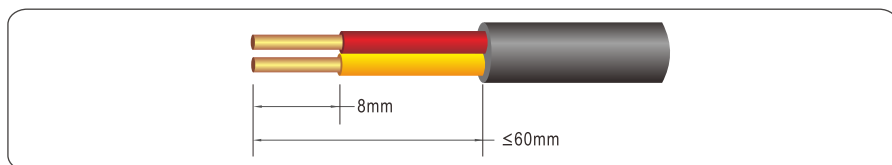

Figure 5.18 Stripping an RS485 communications cable (unit: mm)
Step 1 Remove an appropriate length of the insulation layer from the cable using a wire stripper, as shown in Figure 5.18.